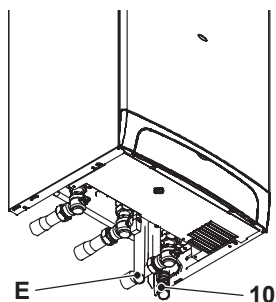

Fig. 6.4
- Connect the pipe E (Fig. 6.4) from the pressure relief valve to the safety discharge pipework.
- Fit the condensate drain 10 (Fig. 6.4) in the air brake connected to the drainage pipework. See also section "Condensate drain" to page 27.